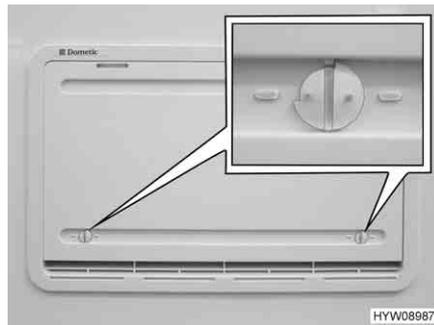

Fig. 208 Winter cover
If the refrigerator is to be operated at low external temperatures, the manufacturer recommends the use of a winter cover (Fig. 208) for the refrigerator ventilation grills.
- Open both locks (Fig. 208) (groove in horizontal position).